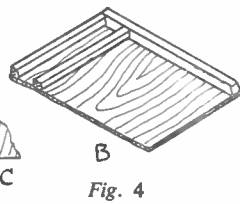

Fig. 4
the length of the fillets, and let this be the depth of the tray, less about $\frac{1}{4}$ in. No complete drawing is needed for this tray, it can be seen partially withdrawn in the general view of the completed article, but a detail of its construction is shown at (B) in Fig. 4. The base of it is a piece of good stout plywood, cut to fit across and rest on the side fillets. For edging strips cut some suitable pieces of deal board, $\frac{3}{4}$ in. thick and $\frac{1}{2}$ in. wide, to fit across back and side edges, where they should be well glued and screwed through the plywood bottom. Countersink the screw heads below the surface. A crosspiece of similar wood is then glued, to leave a space of about 3ins. between it and the back strip, to make an enclosed inner tray for holding small tools.
plywood, cut to the same dimensions as the back. This is not hinged in place, instead a slot, $\frac{1}{2}$ in. wide and $\frac{1}{2}$ in. long, is sawn out at $\frac{1}{4}$ in. in from each bottom corner, as in detail (C) in Fig. 4, and a round-headed screw driven in each front leg at the right position for the slots in the cover to slip in and hold it in place. A small knob on the cover will make a useful grip to handle it. At the top, to the side of the table, fit a wooden button to hold the cover flat in its place.